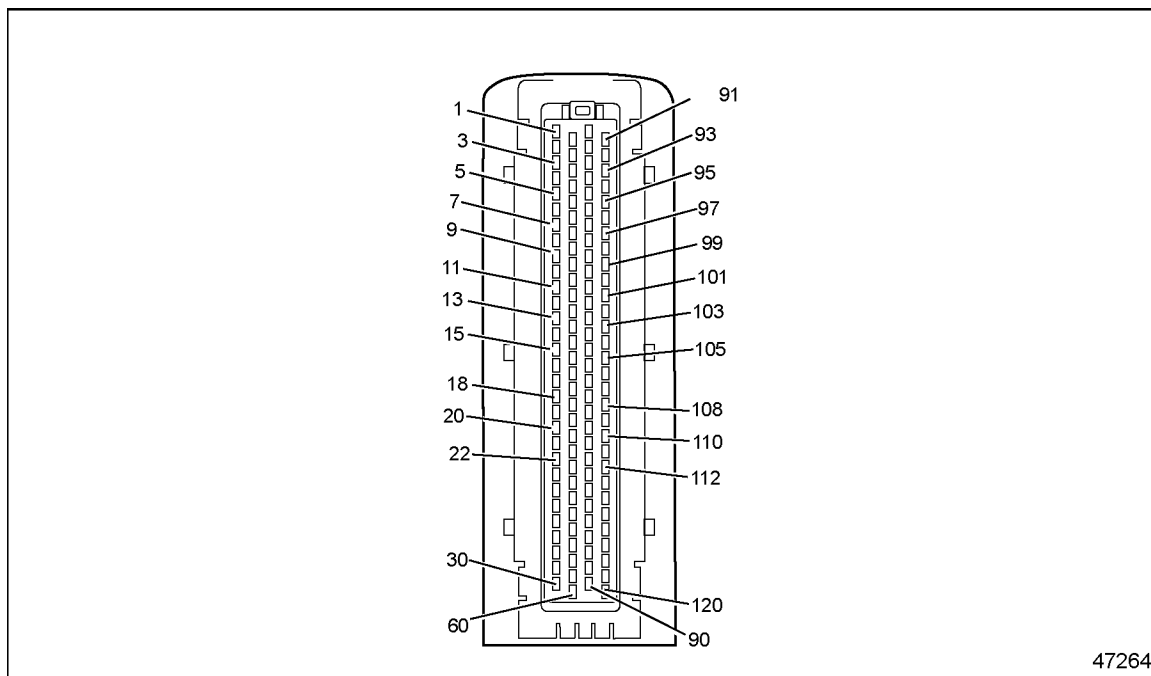

Figure 117-1 120-pin MCM Connector
- [b] If the resistance is less than 3 Ω , repair the short to power between battery positive and pin 11 of the MCM 120-pin connector. See Figure 117-1.